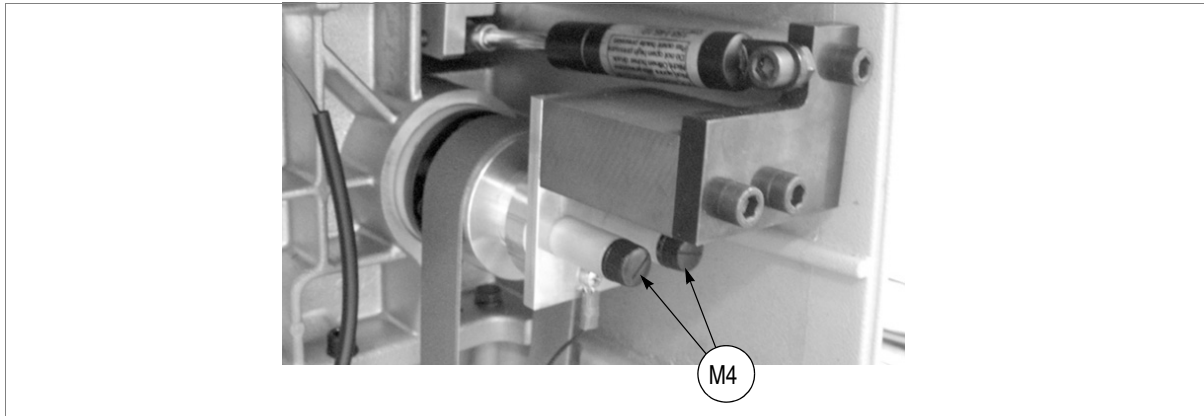

Fig. 64
- 2) Unscrew the two brush caps (M4) (fig. 64), remove and fit two new brushes.